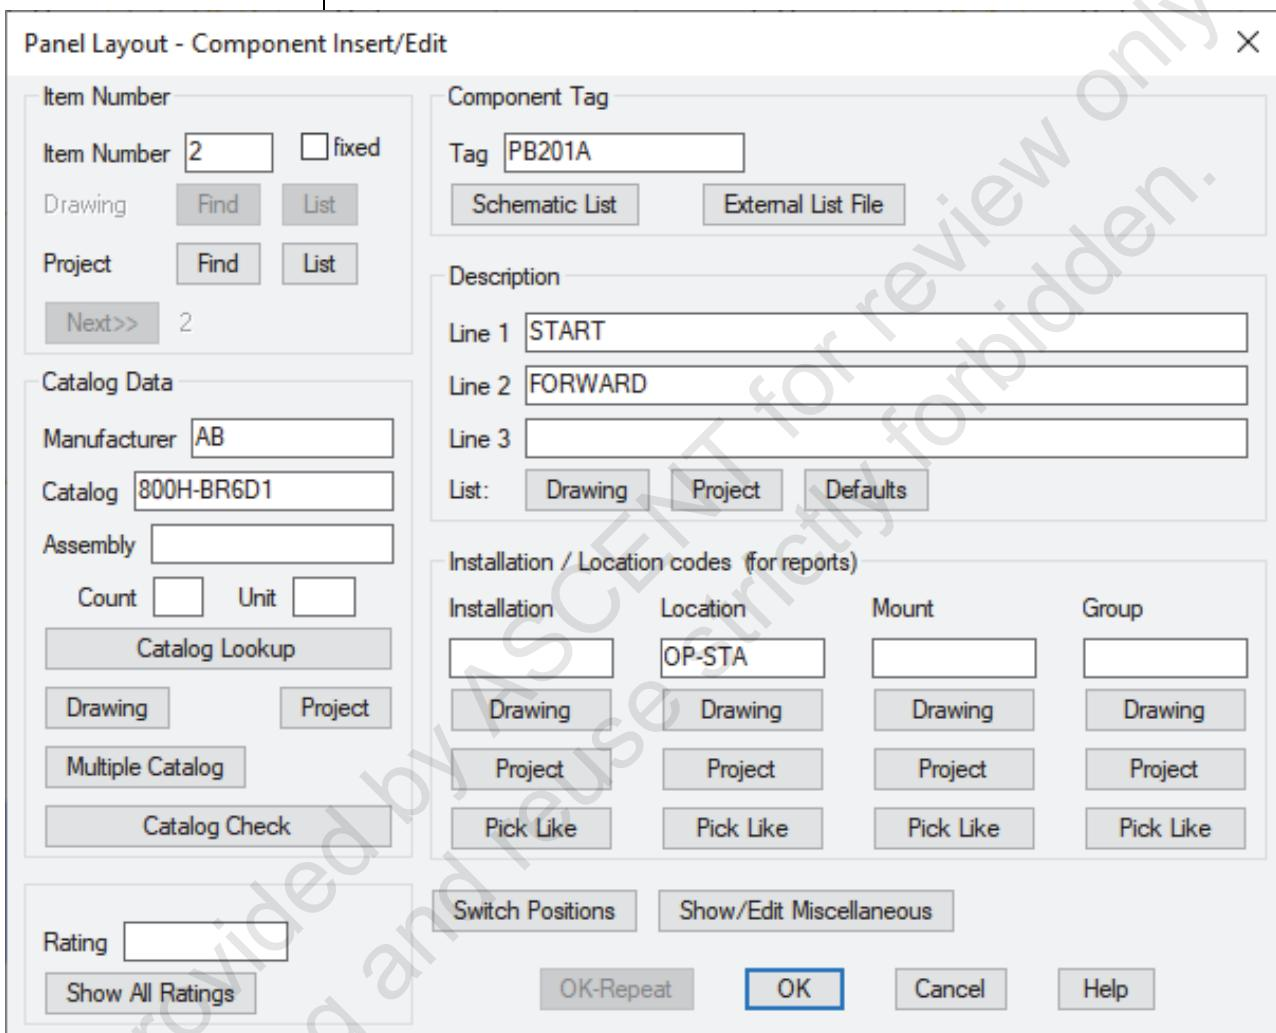

Figure 1–20
14. The Panel Layout – Component Insert/Edit dialog box opens, as shown in Figure 1–20. The panel footprint symbol represents the push button that was edited in the schematic drawing.